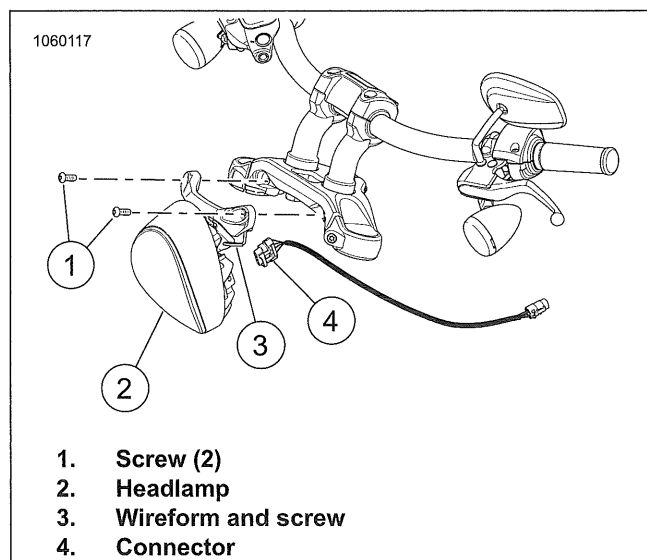
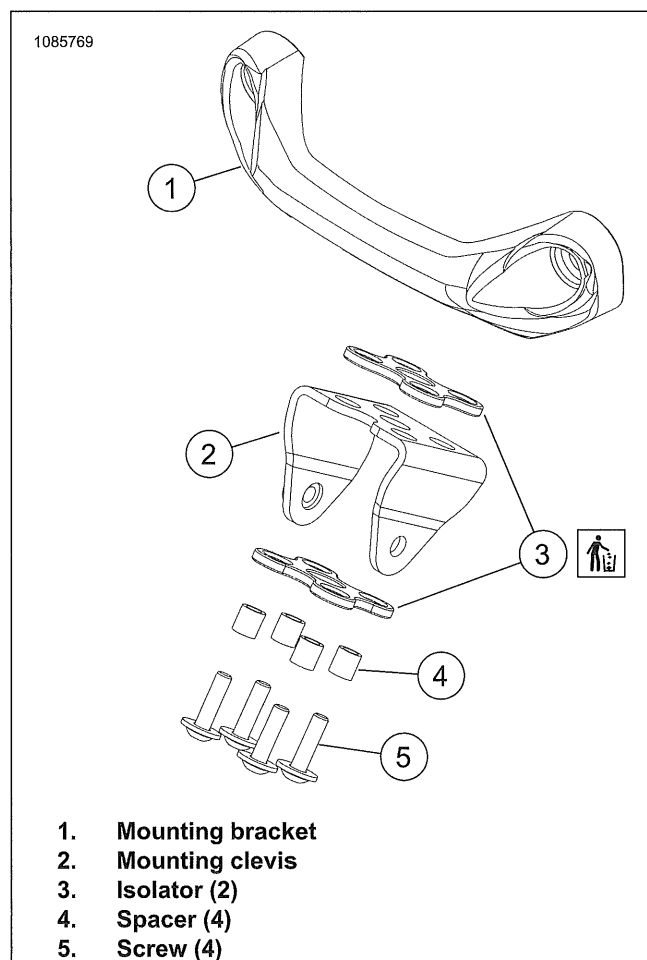

Figure 7-48. Headlamp
Figure 7-49. Oblong Headlamp Mounting Bracket
2. See Figure 7-48. Remove mounting bracket.
- a. Remove screws (1).
- b. Remove headlamp (2).
- c. Disconnect connector (4).
- d. Remove screw and wireform (3).
3. See Figure 7-49. Disassemble mounting bracket.
- a. Remove screws (5) and spacers (4).
- b. Discard isolators (3).
1. See Figure 7-49. Assemble mounting bracket.
- a. Assemble bracket (1), **new** isolators (3) and clevis (2).
- b. Install spacers (4) and screws (5). Tighten.
2. See Figure 7-48. Install mounting bracket.
- a. Install wireform and screw (3). Tighten.